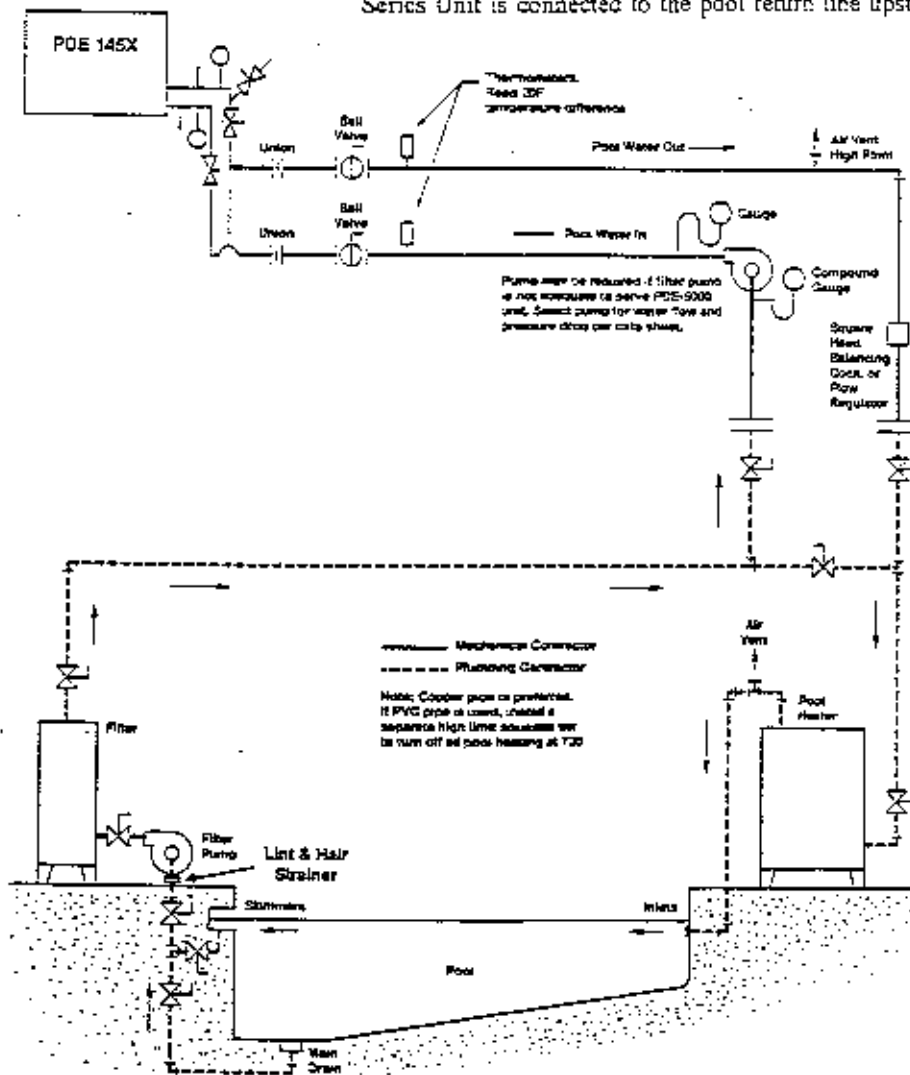

Figure 2
Refer to Figure 2 below. Pipe Pool Water according to the following recommendations:
4. Connect the pump as shown in Figure 2 below. The return line from the CP Series Unit is connected to the pool return line upstream of the pool heater.